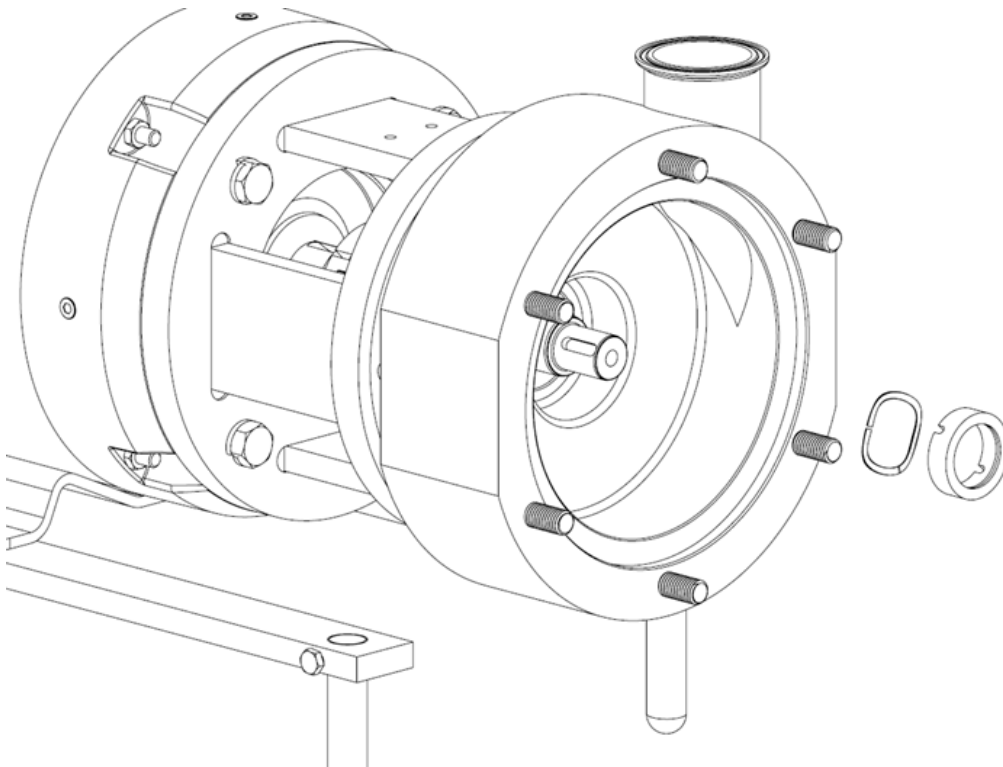

Figure 8
10. Remove the double rotating seal assembly and spring if the mixer has the double seal option. Check the condition of the casing, rotating seal, stationary seal and double seal. Clean and remove any foreign matter before reinstalling the seal. See Figure 8. **\*Inspect the seal faces before installing, clean with acetone to remove any oils. Avoid touching with bare fingers\***